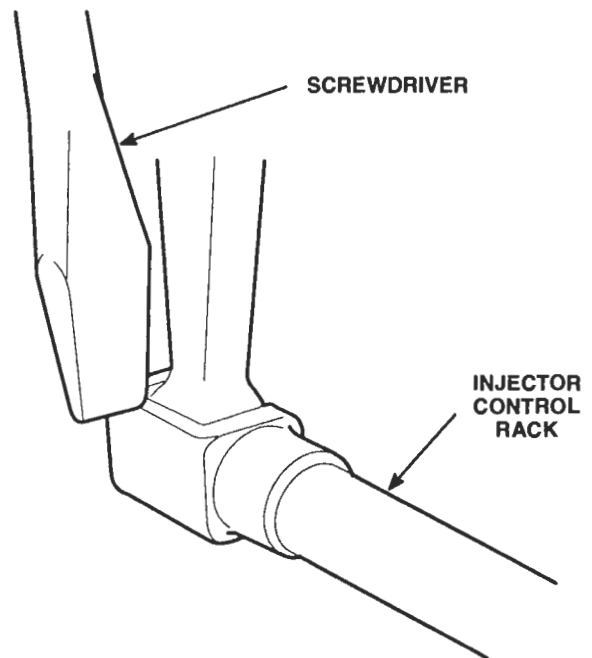

Figure 4. Checking Injector Control Rack "Spring"
7. Hold the speed control lever in maximum speed position and, using a screwdriver, press downward on the injector control rack. The rack should tilt downward and when the pressure of the screwdriver is released, the control rack should "spring" back upward (Figure 4.)